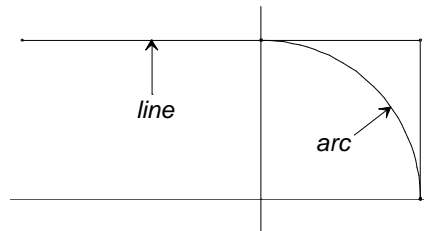

Fig. 1
- A Line and an Arc that end normal to the plane through their shared end point (Fig. 1).